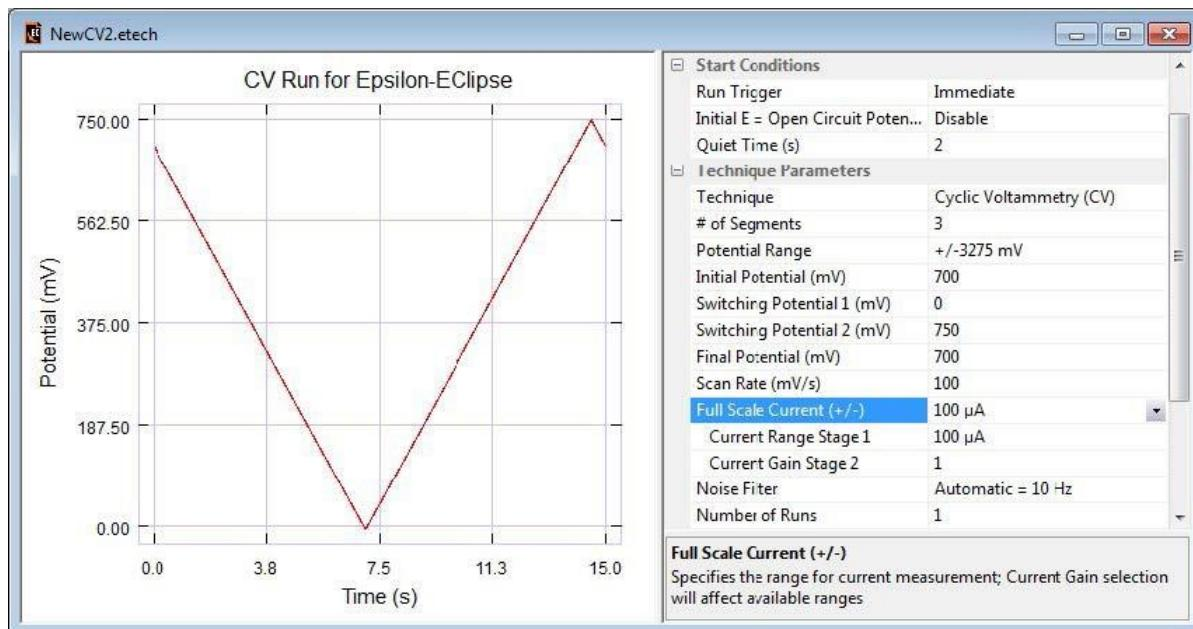

Figure 8 - New Cyclic Voltammetry Parameters
10. Click **New** in the **File** menu, and select **Cyclic Voltammetry** again. Enter the parameters shown in **Figure 8**, and run this experiment. Since there are 3 segments, 4 potential parameters must be defined (**Initial Potential**-**Switching Potential 1**-**Switching Potential 2**-**Final Potential**).